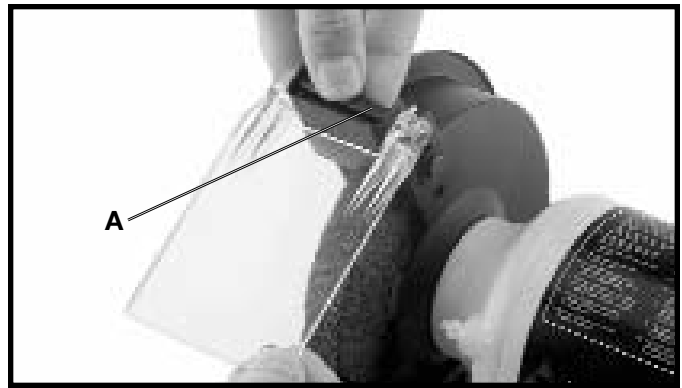

Fig. 7
2. Align the holes in the eye shield with the holes in the spark guard and place the eye shield bushing (A) Fig. 7, in between the space in the spark guard.